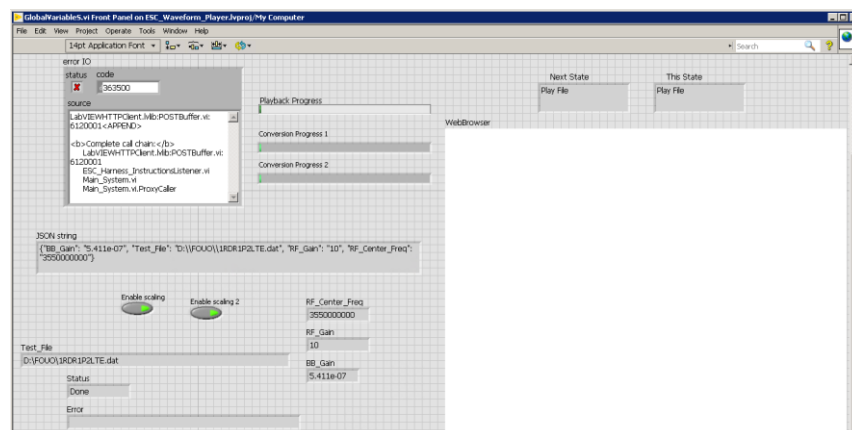

Figure 7: Status of waveform playback
- b) Go to the LabVIEW project and expand the folder “99 – Others”. Double click the “GlobalVariables.vi”. The GlobalVariables.vi front panel will appear as shown in Figure 7.